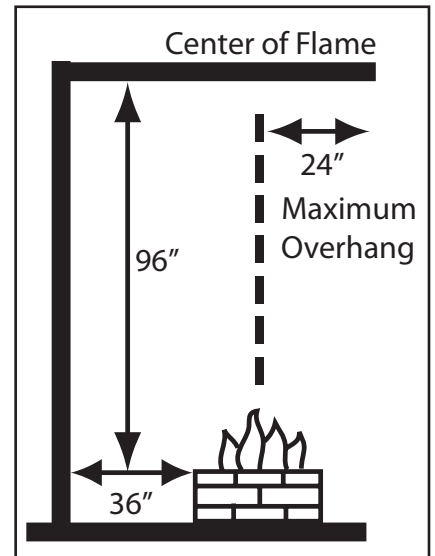

Figure 2. Clearance to Combustibles
WARNING: Proper clearances from combustible, construction and materials must be maintained from all sides, top and bottom of this appliance. This appliance should never be placed on any combustible surface. This appliance should never be placed under any combustibles closer than 96-inches. This appliance should never be placed closer than 36-inches from any side to any combustible construction or materials (See fig. 2, pg. 3).
6. Linear Outdoor Fire pits create high temperatures, it is very important to have any combustibles at a safe distance (See Fig. 2 page 4).